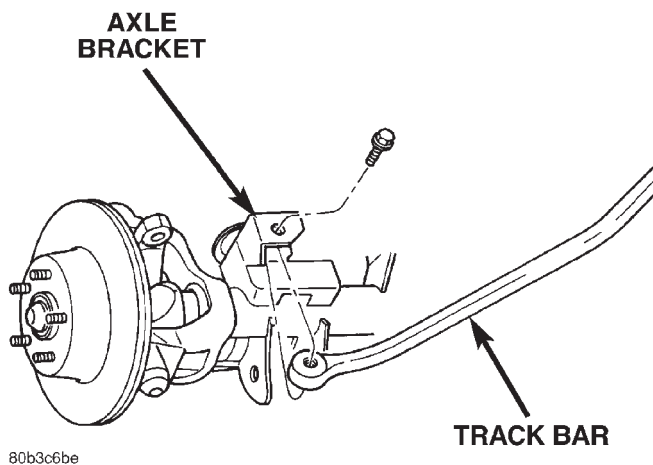

Fig. 15 Track Bar Axle Bracket
- (3) Remove the bolt from the axle shaft tube bracket (Fig. 15). Remove the track bar.